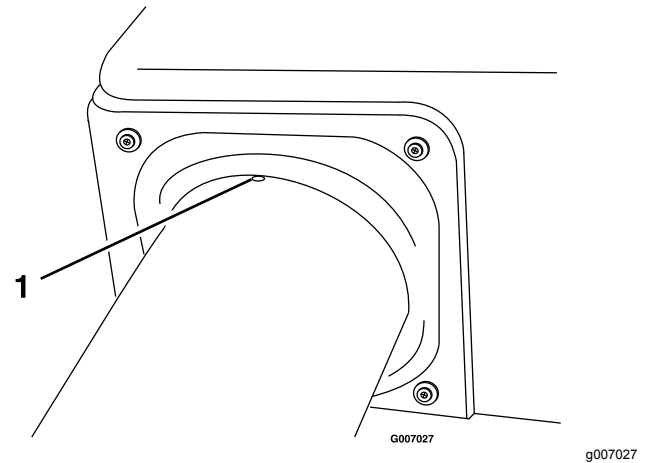

Figure 49
6. Align the dimple in the upper tube equally between the screws securing the hopper seal to the hopper (Figure 49).
10. Verify that the dimple from Figure 49 is still in place.